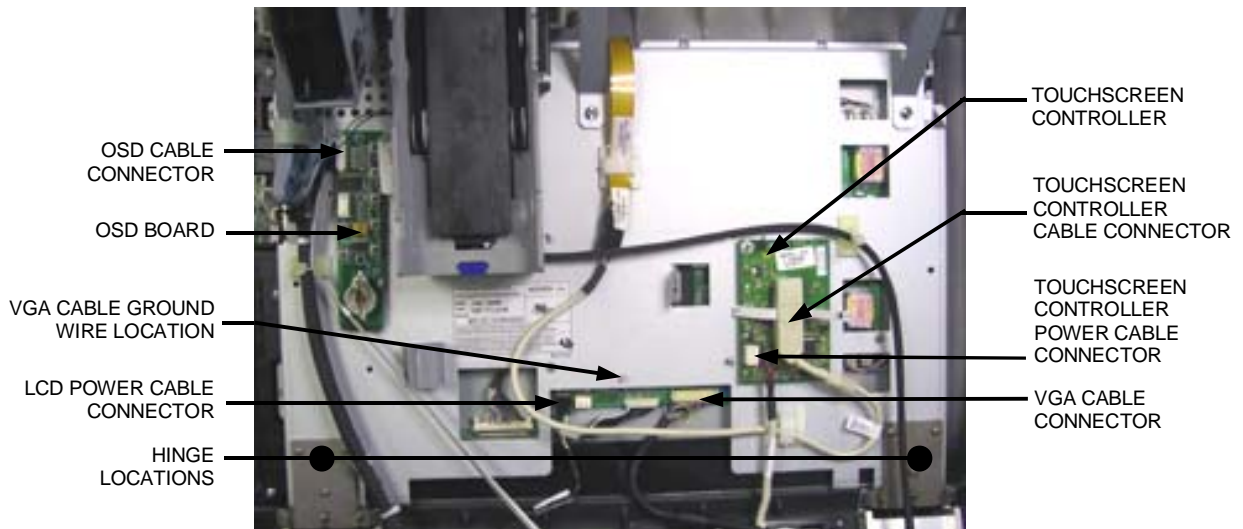
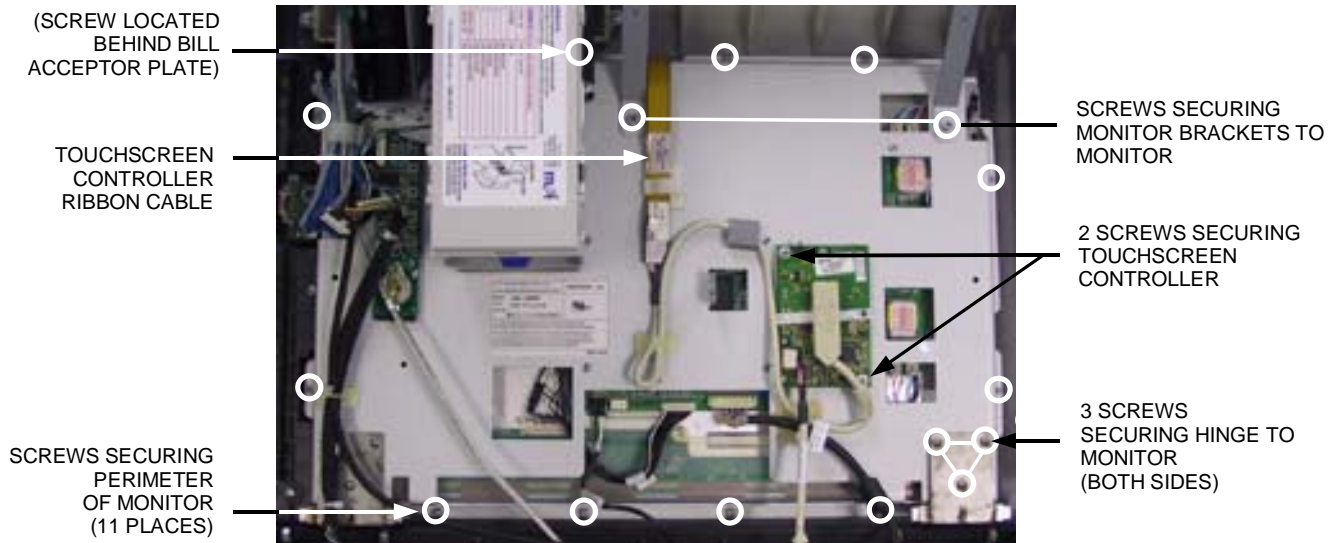

FIGURE 1 - MONITOR CONNECTIONS
FIGURE 4 - SCREW LOCATION ON REAR OF MONITOR
3. Disconnect the LCD power cable connector, the VGA cable connector, and the touchscreen controller power cable connector (see Figure 1). Disconnect the VGA cable ground wire by removing the nut securing it to the rear of the monitor.
*If you are replacing the monitor:* Disconnect the OSD cable connector and then remove the OSD board from the Velcro securing it to the rear of the monitor (see Figure 1).
6. Remove the 2 screws securing the touchscreen controller to the rear of the monitor assembly (see Figure 4), then move the touchscreen controller out of the way for the moment.
7. Remove the screws securing the monitor brackets to the rear of the monitor assembly, then remove the 11 screws that secure the perimeter of the monitor (see Figure 4). Remove the monitor from the bezel.
8. *If you are replacing the monitor:* Remove the 3 screws securing each hinge to the bottom of the monitor (see Figure 4).
*If you are replacing the touchscreen:* Note the orientation of the touchscreen (i.e. the positioning of the touchscreen ribbon cable and which side is the front of the touchscreen - the rear of the touchscreen will have tape on it, do NOT remove the backing of this tape), then lift the touchscreen out of the bezel. Undo the wraps around the touchscreen controller cable connector and detach it from the touchscreen controller (see Figure 1).
1. *If you are replacing the touchscreen:* Place the new touchscreen into the monitor bezel with the touchscreen controller ribbon positioned at the top of the bezel (see Figure 4). The touchscreen should rest flush against the foam on the inside of the bezel, and the tape on the new touchscreen should be positioned away from the bezel. **NOTE: Do NOT remove the backing from the tape on the touchscreen.** Replace the monitor on top of the touchscreen with the same orientation it had before you removed it from the system (see Figure 4). Be sure to wrap the touchscreen controller ribbon over the top of the monitor as shown in Figure 4. Attach the touchscreen controller cable connector to the touchscreen controller (see Figure 1), then secure the touchscreen controller to the back of the monitor using the same 2 screws you removed earlier (see Figure 4).
*If you are replacing the monitor:* Place the new monitor on top of the touchscreen in the same orientation as the monitor you removed (see Figure 4). **NOTE: Do NOT remove the backing from the tape on the touchscreen.** Be sure that the touchscreen controller ribbon cable coming from the touchscreen is wrapped over the monitor as shown in Figure 4. Secure the touchscreen controller to the back of the monitor using the same two screws you removed earlier (see Figure 4). Connect the OSD cable connector to the OSD board, then secure the OSD board to the Velcro on the rear of the new monitor (see Figure 1 for proper location). Attach the bottom hinges to the new monitor using the 6 screws (3 for each hinge) you removed earlier (see Figure 4). You may need to attach the provided wire clamps to the rear of the monitor assembly. If so, note their location on the rear of the monitor you removed, or use Figure 4 as a guide.
2. Resecure the 11 screws around the perimeter of the monitor (see Figure 4), and secure the monitor brackets to the rear of the monitor with the 2 screws you removed earlier (see Figure 4).
6. Reconnect the LCD power cable connector, and the touchscreen controller power cable connector (see Figure 1).
*If you are replacing the touchscreen only:* Connect the VGA cable, and secure the VGA ground wire to the rear of the monitor with the nut you removed earlier (see Figure 1).
*If you are replacing the monitor:* Remove the old VGA cable from the motherboard and plug the provided VGA cable into that port. Plug the new VGA cable into the monitor, and attach the new VGA cable ground wire to the rear of the monitor with the nut you removed earlier (see Figure 1 for location).